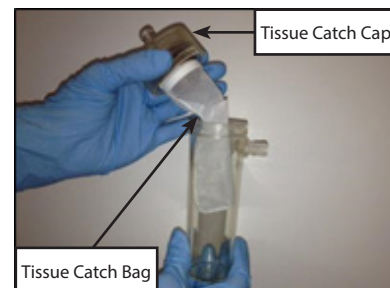

Figure 45
- b. Unthread the Tissue Catch cap and remove cap and tissue bag to access resected tissue. (Fig 45)